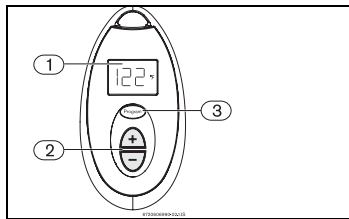

Fig. 12 Memorizing water temperature
- ▶ Press the buttons  or  on the remote control (Fig. 12, pos. 2), until the required temperature appears on the remote control display (Fig. 12, pos. 1).
control (Fig. 12, pos. 3) for 3 seconds.